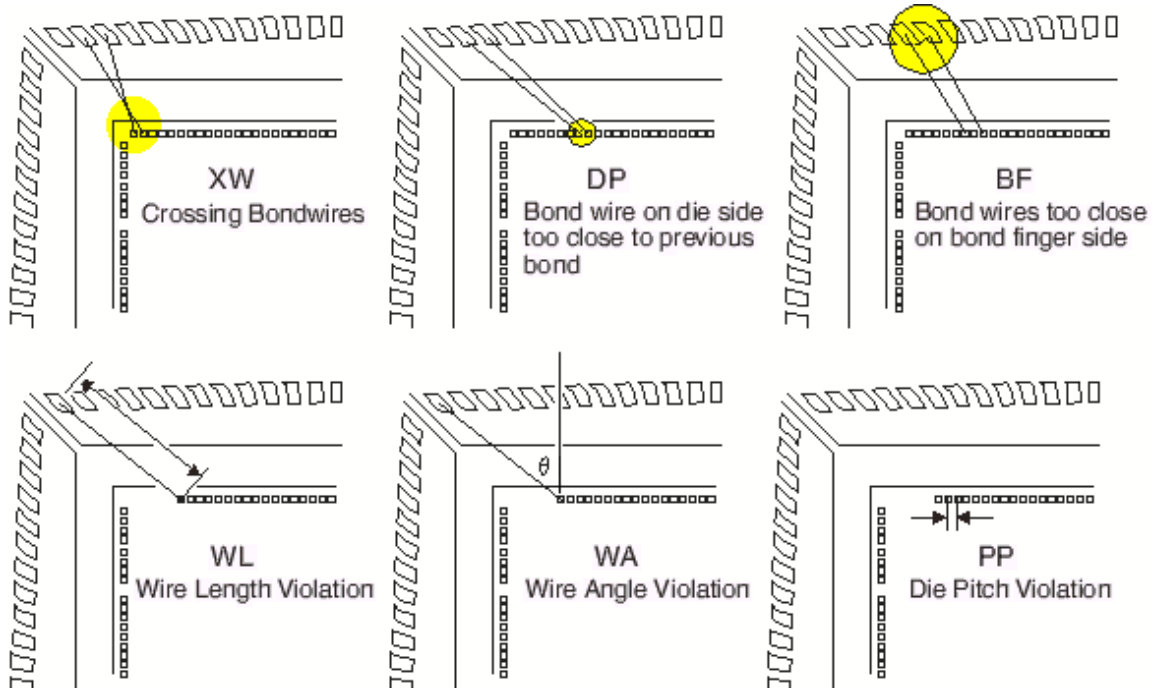

Fig. 5: Mistakes to avoid when we are creating a bonding diagram.
9. Crossing of bonding wires is not allowed (figure 5).